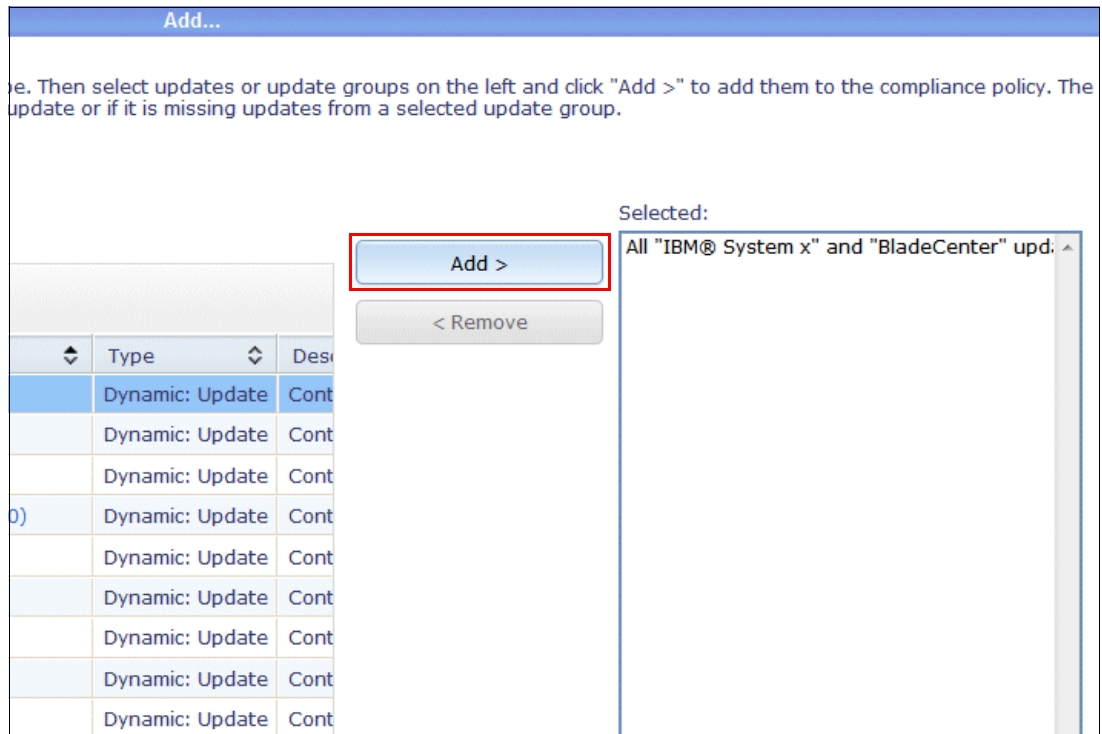

Figure 6-107 Policy Group moved to the Selected box
- The selection is moved to the right column as shown in Figure 6-107. Click **OK**.